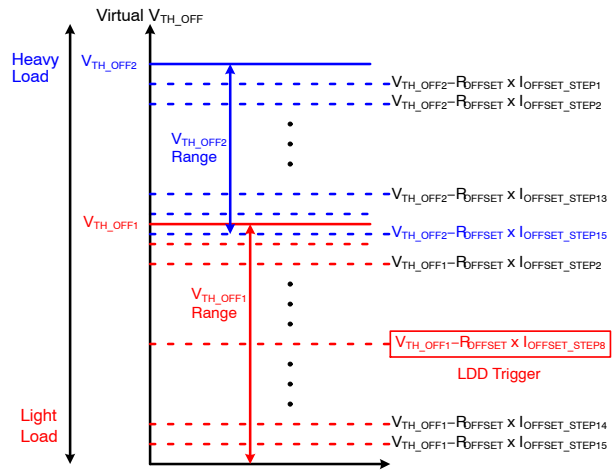

Figure 27. Light Load Detection
To guarantee stable operation under light load condition, FAN6248 adopts a light load detection function. The modulation current  $I_{OFFSET}$  is mainly used for the adaptive dead time control. When the output load is heavy,  $I_{OFFSET\_STEP}$  declines due to large di/dt in the secondary side current to maintain 280 ns of  $t_{DEAD}$  in FAN6248HC(D). On the contrary,  $I_{OFFSET\_STEP}$  increases at light load condition by small di/dt of SR current. FAN6248 can detect light load condition by using this  $I_{OFFSET\_STEP}$  as shown in Figure 27. When SR turn-off threshold voltage is  $V_{TH\_OFF1}$  and the modulation current is higher than  $I_{OFFEST\_STEP8}$ , the light load detection is triggered. In this mode, dead time target becomes to 320 ns of  $t_{DEAD\_LIGHT}$  in FAN6248HC(D) and 360 ns in FAN6248LC(D) version.